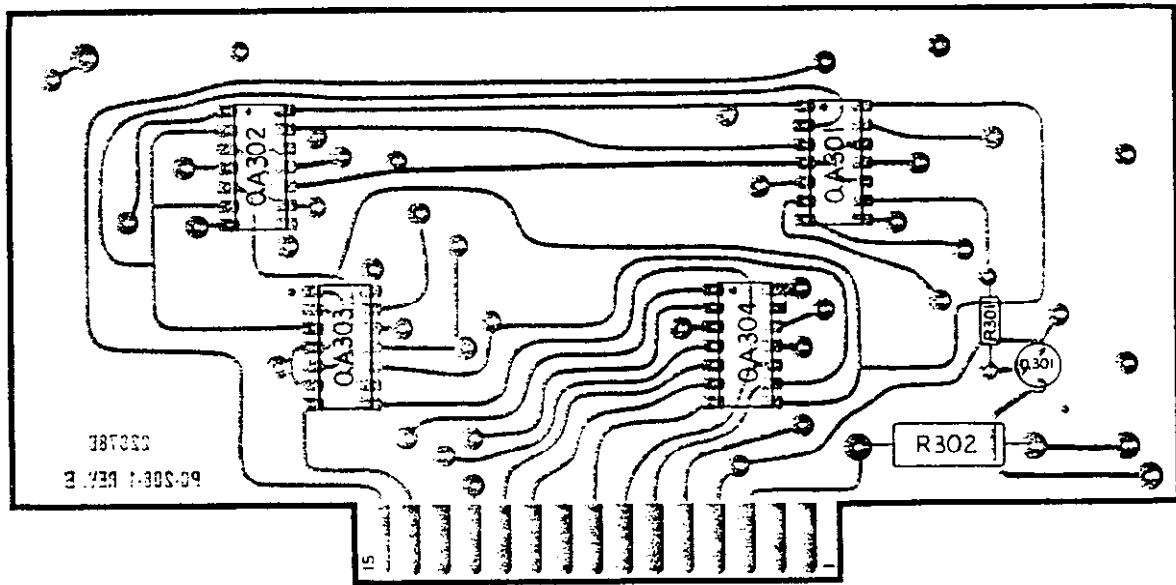

FIGURE 18. Component Layout, PC-208.
2. Zero Crossing Detector Circuit. (Refer to Figure 18). The high gain amplifier is composed of cascaded amplifiers QA602 and QA603. The zero adjustment network consists of resistors R645, R646, R648, R649, and R650, and diodes D611 and D612. Transistor Q609 and other components form a 6-volt supply for QA603 and the zero circuit. The level-splitter circuit consists of diodes D613 and D614, resistors R651, R652, and R653 and gates QA604 (A, B, C).